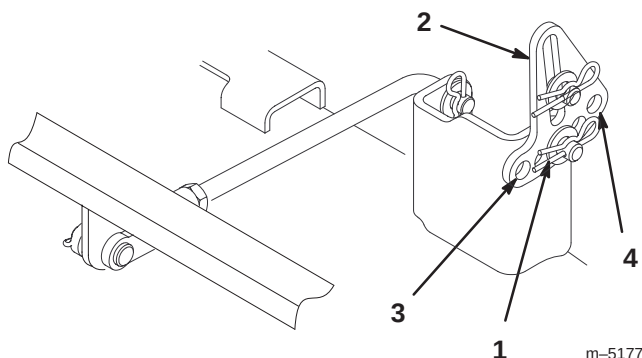

Figure 37
5. Remove the hairpin cotter and washer from the leveling bracket (Fig. 37). To level the blade(s), reposition the leveling bracket(s) in a different hole and install the
washer and hairpin cotter (Fig. 37). A front hole lowers the blade height and a rear hole raises its height. Adjust both sides as required.